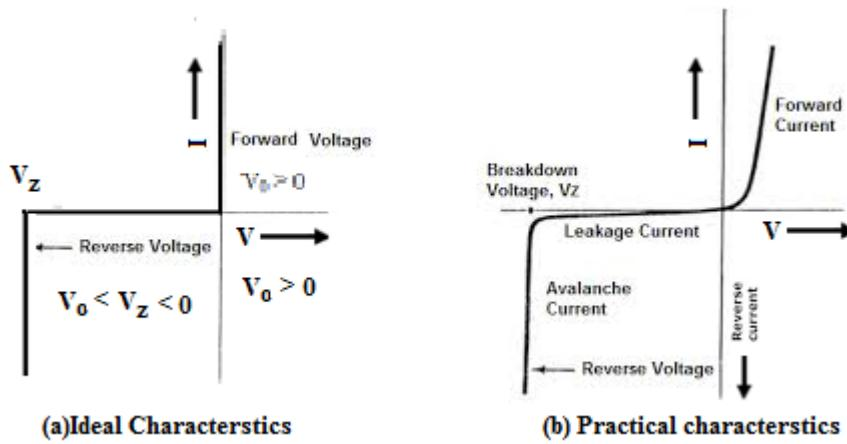

Figure 1.6 V-I characteristics of Zener diode
1.4.3 Current voltage characteristics of zener diode Like an ordinary diode the V-I characteristic of zener diode can be studied in forward bias and reverse bias condition (Figure 1.6). In forward bias condition the characteristic of zener diode is just like an ordinary PN junction diode. Similarly just like a PN junction diode in reverse bias condition, minute current flows